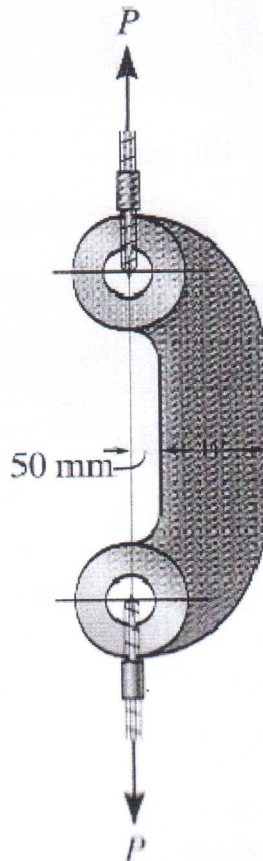

Figure 13.
(13) The offset link, shown in Figure 13, has a width of  $w = 200$  mm and a thickness of 40 mm. If the allowable normal stress is  $\sigma_{all} = 75$  MPa, determine the maximum load **P** that can be applied to the cables.